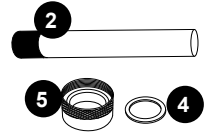

FIGURE 7
5. Remove the quartz seal compression nut (5) by turning it **counterclockwise**, Figure 5. Use a pair of channel-lock pliers if needed, Figure 6. You will notice that there is a stainless-steel compression washer (4) which slides over the quartz tube, save the washer (4) for later use, Figure 7.
6. Now you are ready to clean or replace the quartz tube (2). For cleaning the quartz tube (2), follow steps 7 and 8 then proceed from step 9. For replacing quartz tube (2), skip steps 7 and 8 and proceed from step 9.